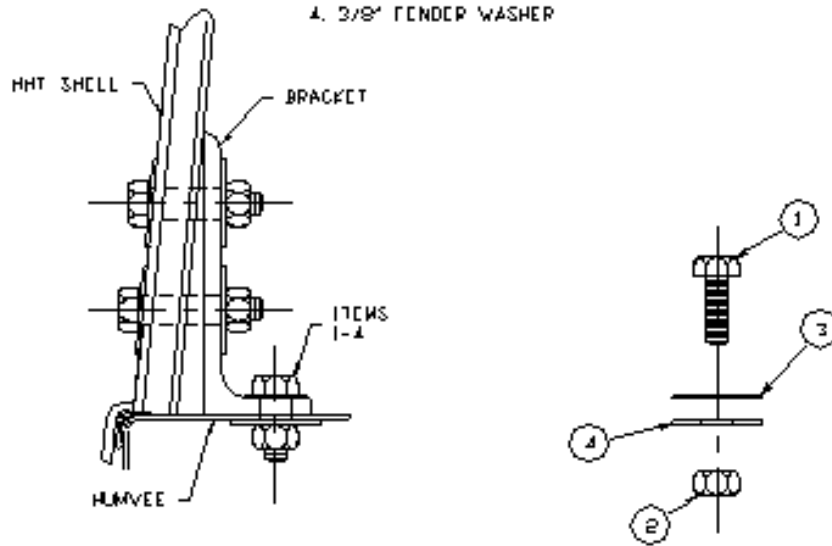

FIG 1-5
13. Tap the mid L-brackets down until they contact the wheel well. With a 3/8" drill bit, drill through the mounting holes on each bracket. Fasten the mid L-brackets to the vehicle with (2 ea.) 3/8"-16 x 1-1/2 hex bolts, (2 ea.) 3/8"-16 nyloc nuts, (2 ea.) 3/8" flat and (2 ea.) 3/8" fender washers. Tighten the bolts which secure the mid L-brackets to the top. See figure 1-5.